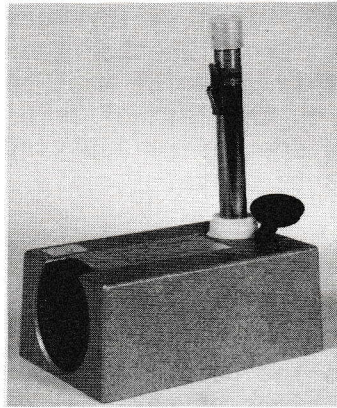

Fig L8.1
2. The Charging Unit used in the ROC is the Type N105A transistorised charging unit which can charge or discharge the No 4 dosimeter (see Fig L8.1).
b. The protective plastic cover (Fig L8.1) should always be replaced after use.